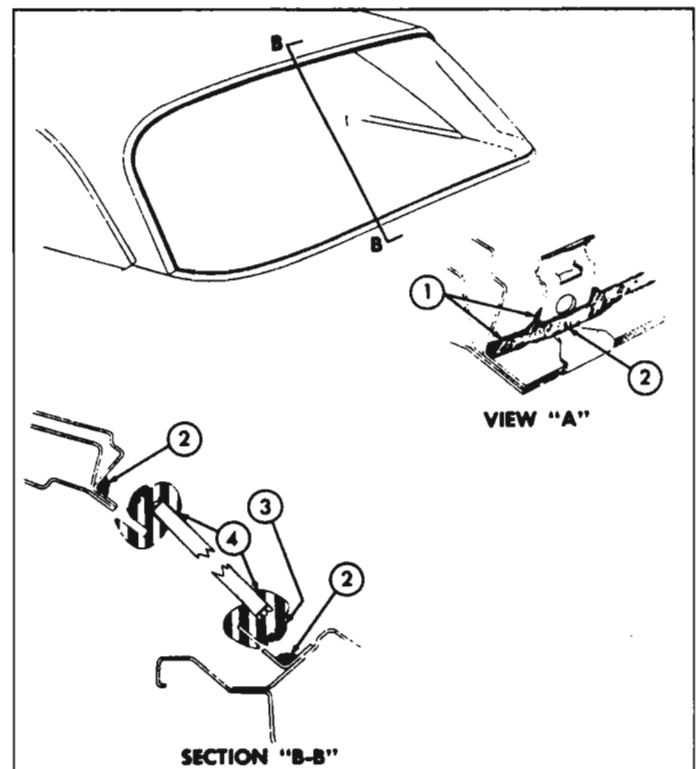

Fig. 10-95—Back Window Sealing
- Check installation of reveal moulding clips and replace clips if damaged or loose. If replacing clips, apply medium-bodied sealer to opening rabbet, as shown at "1" in View "A", Figure 10-95, prior to installing clips.
- Apply a continuous bead of medium-bodied sealer approximately 1/4 inch diameter in corner of rabbet, as shown at "2" in View "A" and Section "B-B", Figure 10-95, completely around opening.
5. Apply a continuous ribbon of medium-bodied sealer to rubber channel, as shown at "3" in Section "B-B", Figure 10-95, completely around channel.
8. Using a pressure-type applicator, apply weather-strip adhesive (black) between rubber channel and glass on inside and outside of glass, as indicated at "4" in Section "B-B," Figure 10-95, around entire perimeter of glass.